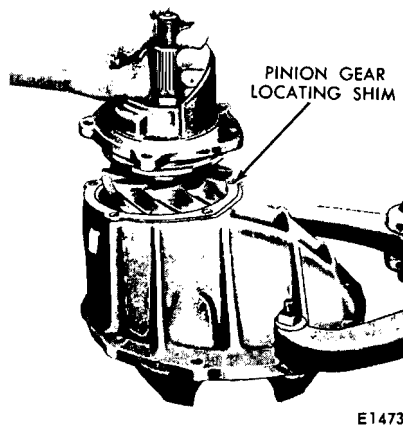

FIG. 47—Installing Pinion and Retainer
3. Remove the pinion, bearing, and retainer assembly from the carrier housing (Fig. 47). Measure the shim thickness with a micrometer. Record this original shim thickness. If a new gear set is installed during assembly, a new shim will have to be installed. The original shim thickness is one of the factors necessary in determining the new shim thickness. **Extreme care must be taken not to damage the mounting surfaces of the retainer and carrier.**
4. Place the proper shim on the carrier housing and install the pinion and retainer assembly being careful not to pinch the O-ring (Fig. 47).